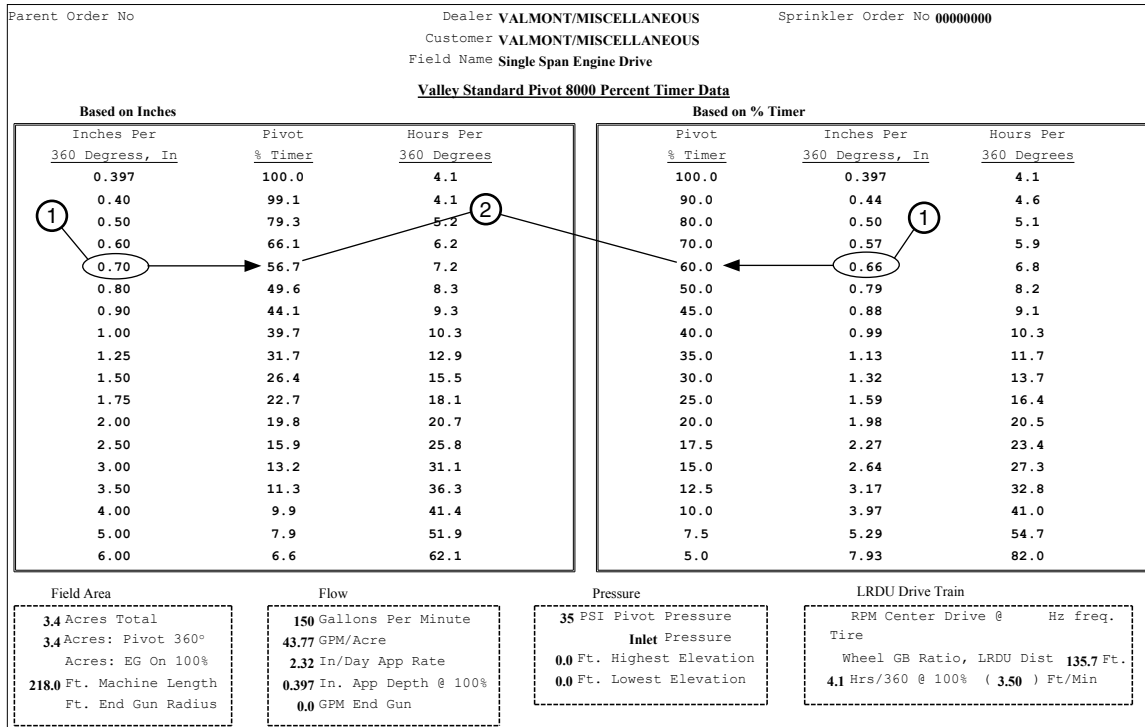

Figure 21-1 1. Desired Water Application Depth
5. For desired water application depth (WAD) look up the corresponding Pivot % Timer setting from VChart Timer Report. This is the Water Application Depth Percentage (WAD%). See figure 21-1.